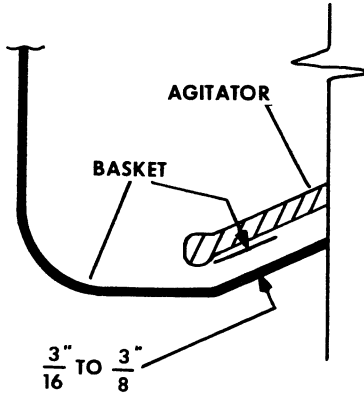

Figure 14 – Agitator to Basket Clearance
1. The clearance should be as shown in Figure 14. A shim is installed at the factory inside the agitator support to achieve the proper gap. The agitator to basket clearance may be reduced by removing the shim washer.